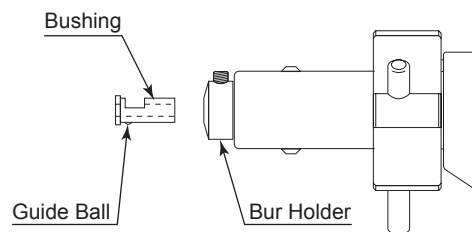

Fig. 5
- To mount larger tool  $\phi$  3.2 mm through  $\phi$  6.4mm), loosen the setscrew, remove the bushing, insert the tool and tighten the setscrew. (Fig. 5)
Loosen the tool mounting setscrew with the supplied allen wrench (2mm), and remove. To re-install the bushing, align the guide ball on the bushing with the slot. (Fig. 5)